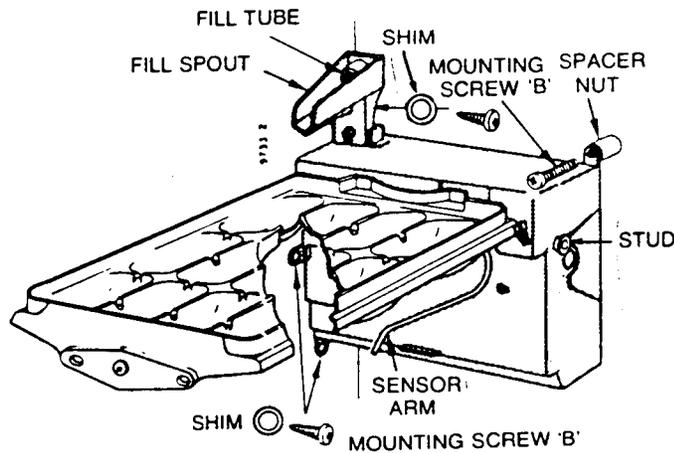

Figure 5 Ice maker mounting
With a type 'F' screw, attach fill spout to ice maker (see figure 5).
- Move the ice maker into position (see figure 5) while guiding the fill spout into the fill tube. Cut tube if it protrudes more than 1 inch into the spout. NOTE: when positioning the mechanism, slide your left hand between the ice maker and the freezer wall to push the wire harness toward the centre of the ice maker back.
- Mount the ice maker to the side wall fasteners with 3 type 'B' screws (see figure 5). NOTE: starting these screws will require extra pressure to pierce the sealing web over the screw hole in the fasteners.
- Insert one type 'E' screw through the rear mounting lug and fasten to the rear spacer nut installed in step B5 (see figure 5).
- Insert stud B as shown on figure 5.
- Turn the ice maker on by pulling the sensor arm toward you a fraction of an inch and allowing it to drop into the ON position (figure 5 shows arm in the ON position).
- Hook the rear of the ice maker enclosure on stud B on the ice maker side (see figure 5). Proceed to steps 10 and 15.
- Turn the ice maker on by pulling the sensor arm toward you a fraction of an inch and allowing it to drop into the ON position (figure 5 shows arm in ON position).